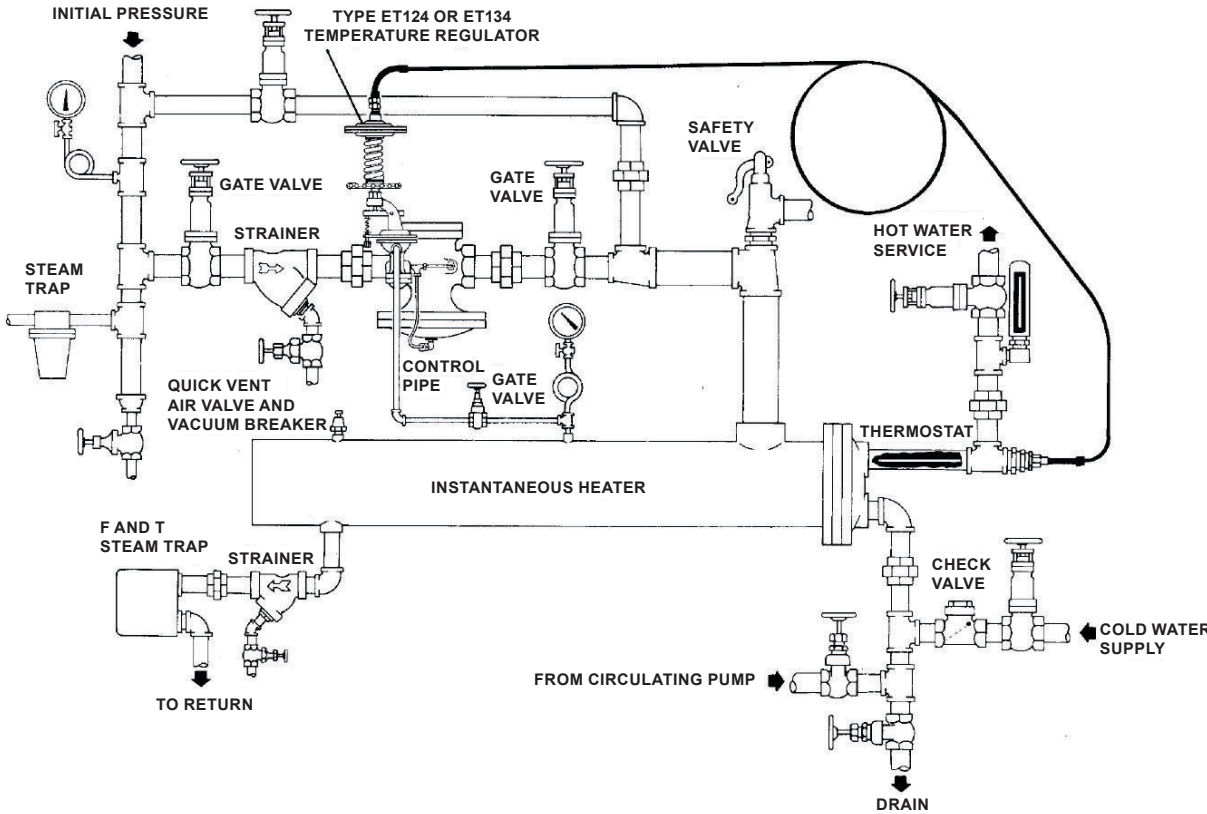

Figure 2. Typical Heater Installation
When steam is turned on, it flows to the pilot through the connecting nipple and union (see Figure 2). At No. 8B tee on the pilot outlet, the flow divides. One branch is connected to bleedport No. 4A and the other to restriction elbow No. 5A and the underside of the main valve diaphragm. Bleedport No. 4A restricts the flow, builds pressure under the diaphragm and opens the main valve. Restriction No. 5A steadies the operation of the regulator.
Insulation may be applied to the upper portion (globe and flanges) of the main valve. Do not insulate the diaphragm chamber or any part of pilot. See Figure 2.
1. Close bypass, open 1/4 in. / 6.35 mm control pipe valve turn up the temperature adjusting wheel (Figure 2) until 1/2 in. / 12.7 mm of thread is exposed.